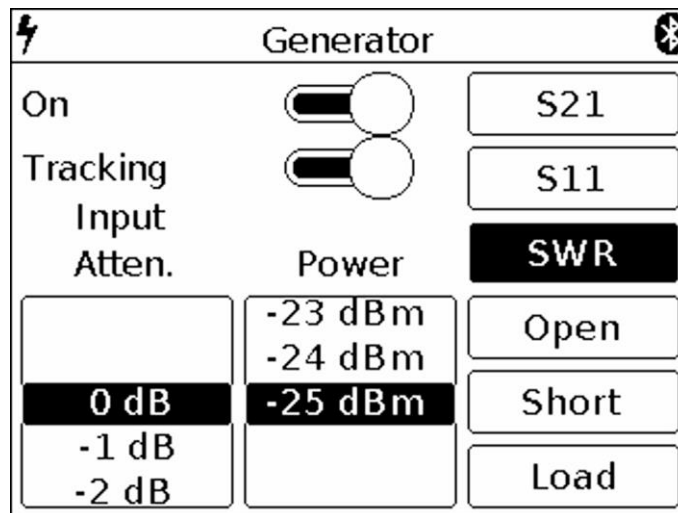

Figure 21 – Enabling SWR mode
7.8.1 To measure the standing wave ratio, you must select the **SWR** mode (Figure 21). The standing wave ratio is measured in **SWR** mode. The graph will be displayed with the vertical axis as a numerical standing wave ratio. The horizontal axis shows the specified frequency range of the signal.
7.8.4. Select the **SWR** mode in which you want to measure, as shown in figure 21. On the screen under the grid, the information label will display the **SWR** mode and the warning **UNCAL (not calibrated)**.